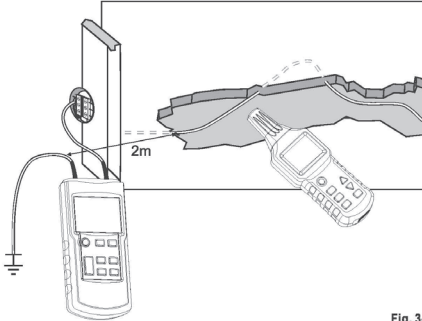

Fig. 3-1-9
- * Connect the emitter as shown in Fig. 3-1-9.